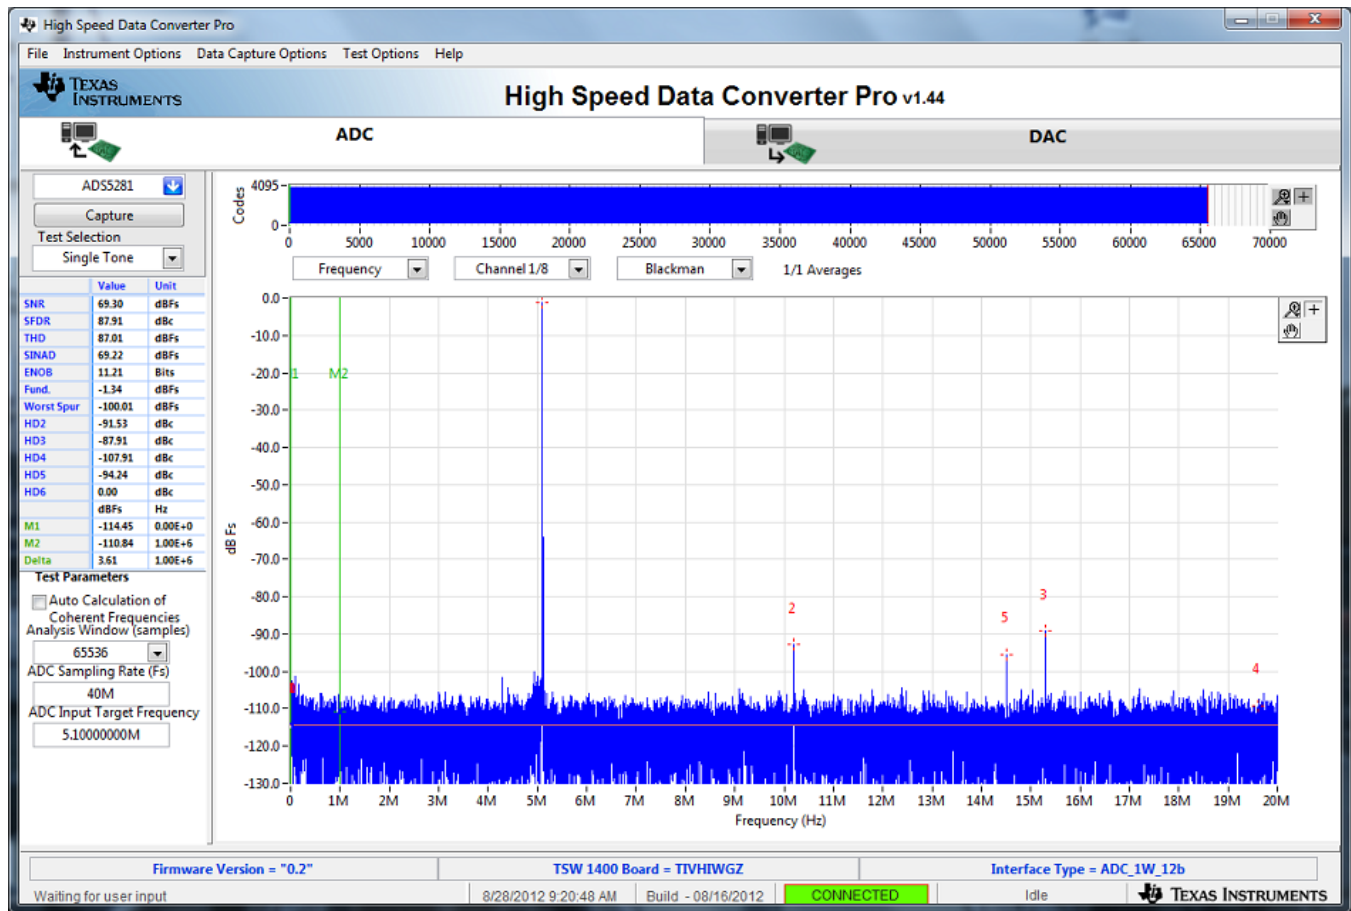

Figure 33. ADC5281 Single Tone FFT Capture Results
- Click on the “Capture” button to perform a data capture. The results should be similar to those shown in Figure 33.